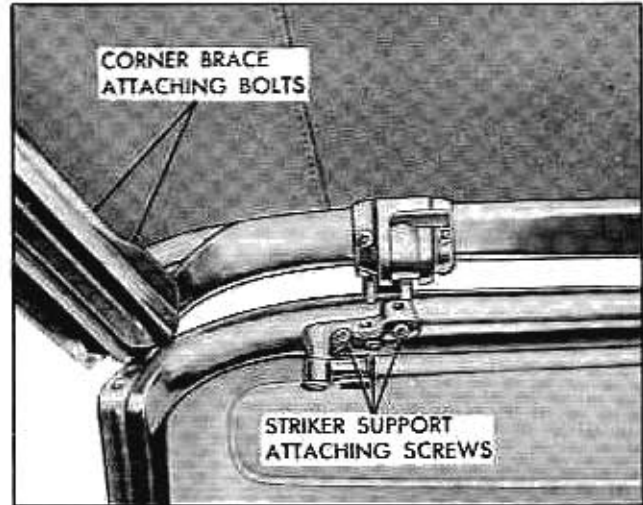

Fig. 7-18 Front Roof Rail Adjustment
2. Loosen corner brace attaching bolts (Fig. 7-18) and adjust front roof rail fore or aft as required. Repeat on opposite side if necessary.
2. Loosen striker support attaching screws (Fig. 7-18) and adjust striker as required; then tighten attaching screws.